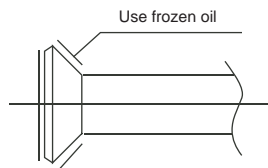

Fig.8-1
- ① Bend the tubing in proper way. Don,t harm them.
- ② Daub the surfaces of the flare pipe and the joint nuts with frozen oil, and wrench it for 3~4rounds with hands before fasten the flare nuts. (Refer to Fig.8-1)
- ③ Be sure to use two wrenches simultaneously when you connect or disconnect the pipes.